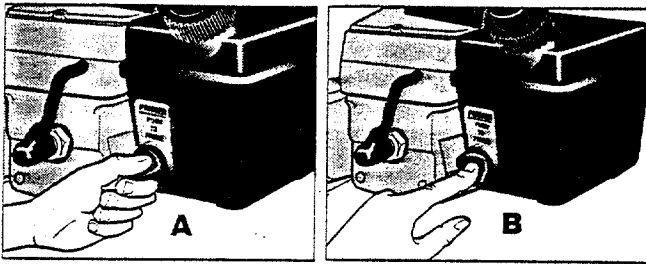

Figure 10: Select the right fuel priming technique: High Volume (A) or Standard Volume (B).
First Start- When starting a new engine for the first time, after running out of gas, or after extended storage, use High-Volume priming (see Fig. 10)- squeeze sides of the primer button between thumb and index finger 8-to-10 times. Be sure to align your fingers with the colored line on the housing around the button.
Cold Start- If the engine has been sitting (or after brief storage), and still has fuel in the tank, use Standard-Volume priming (Fig.10)-push top of primer button two (2) times if above 55°F, three (3) times if below 55°F.